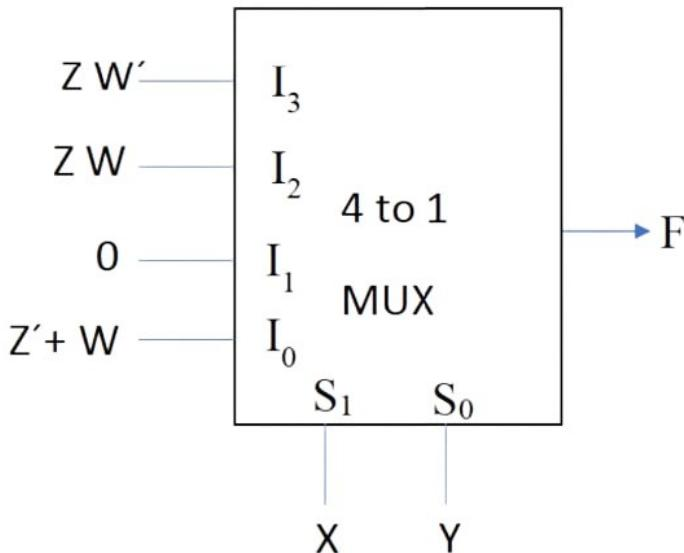

Fig. 4.26: Multiplexer
48. A  $4 \times 1$  multiplexer with two selector lines is used to realize a Boolean function  $F$  having four Boolean variables  $X, Y, Z$  and  $W$  as shown below in Fig. 4.26.  $S_0$